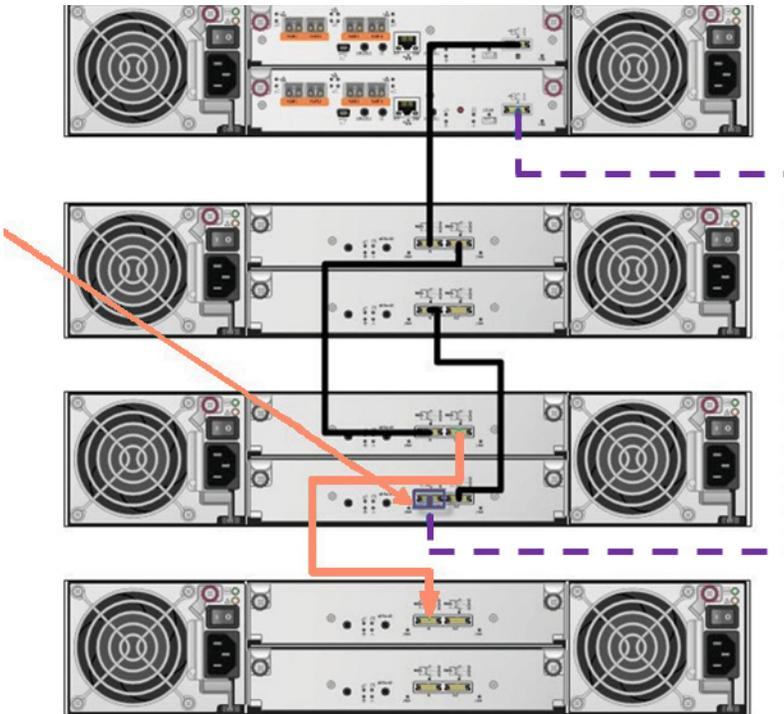
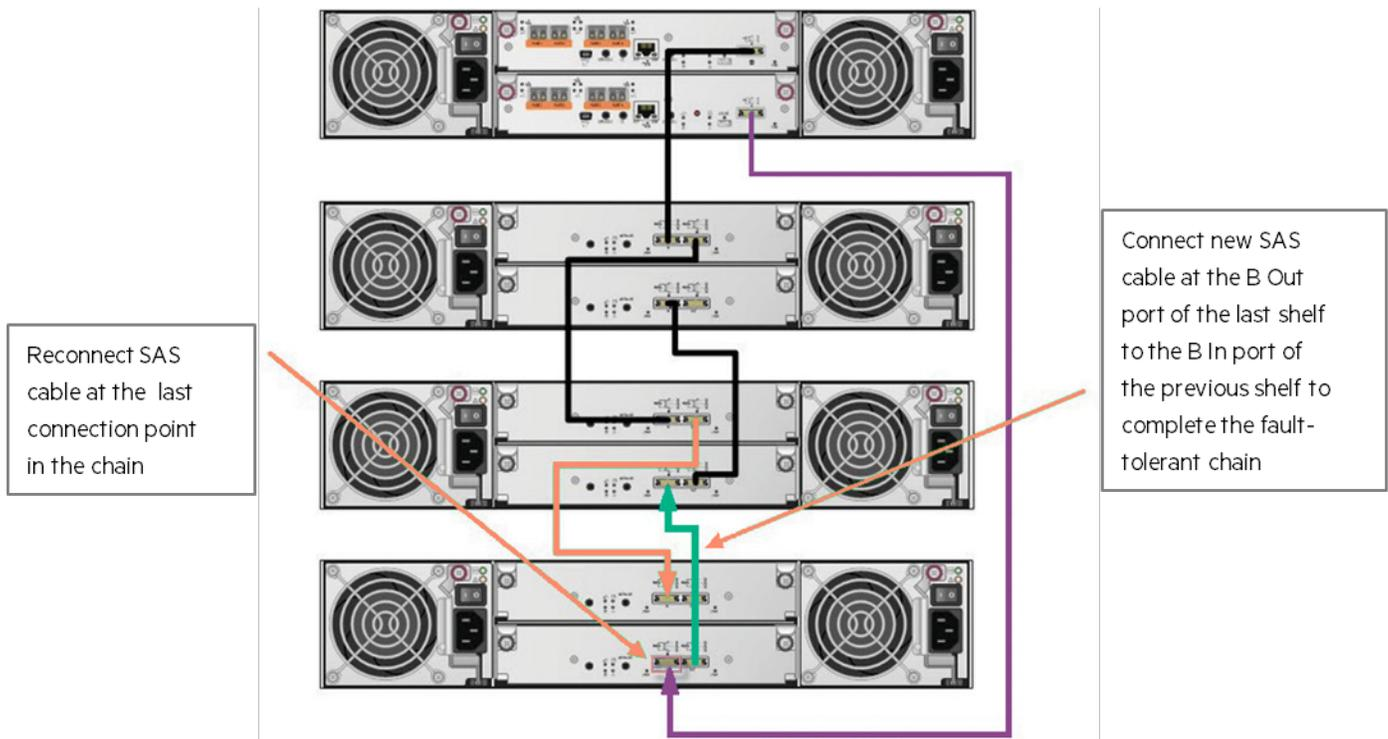

Figure 32. Breaking the B channel chain to extend B channel to an additional shelf
Figure 33. Completing the fault-tolerant chain on the B channel
8. Disconnect the existing SAS cable (Figure 32, dashed purple cable) from controller B of the current MSA 1050/2050/2052 storage system to the B port (In) of the existing disk enclosure, and reconnect the SAS cable to the last disk enclosure in the chain (Figure 33, purple cable).
9. Connect the new SAS cable (Figure 33, green cable) from the B port (Out) of the new the MSA 1050/2050/2052 disk enclosure to the B port (In) of the previous disk enclosure.